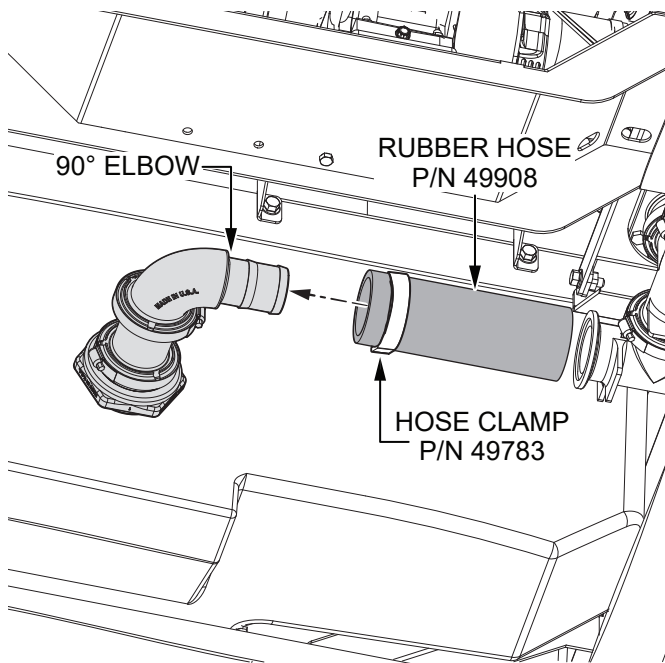

Figure 6. Install Rubber Hose Onto Elbow
1. Place a new **hose clamp (P/N 49783)** onto one end of the new **rubber hose (P/N 49908)**. See Figure 6.
2. Place the end of the **rubber hose (P/N 49908)** with the **hose clamp (P/N 49783)** onto the **90-degree elbow**. **DO NOT** tighten the hose clamp at this time. See Figure 6.